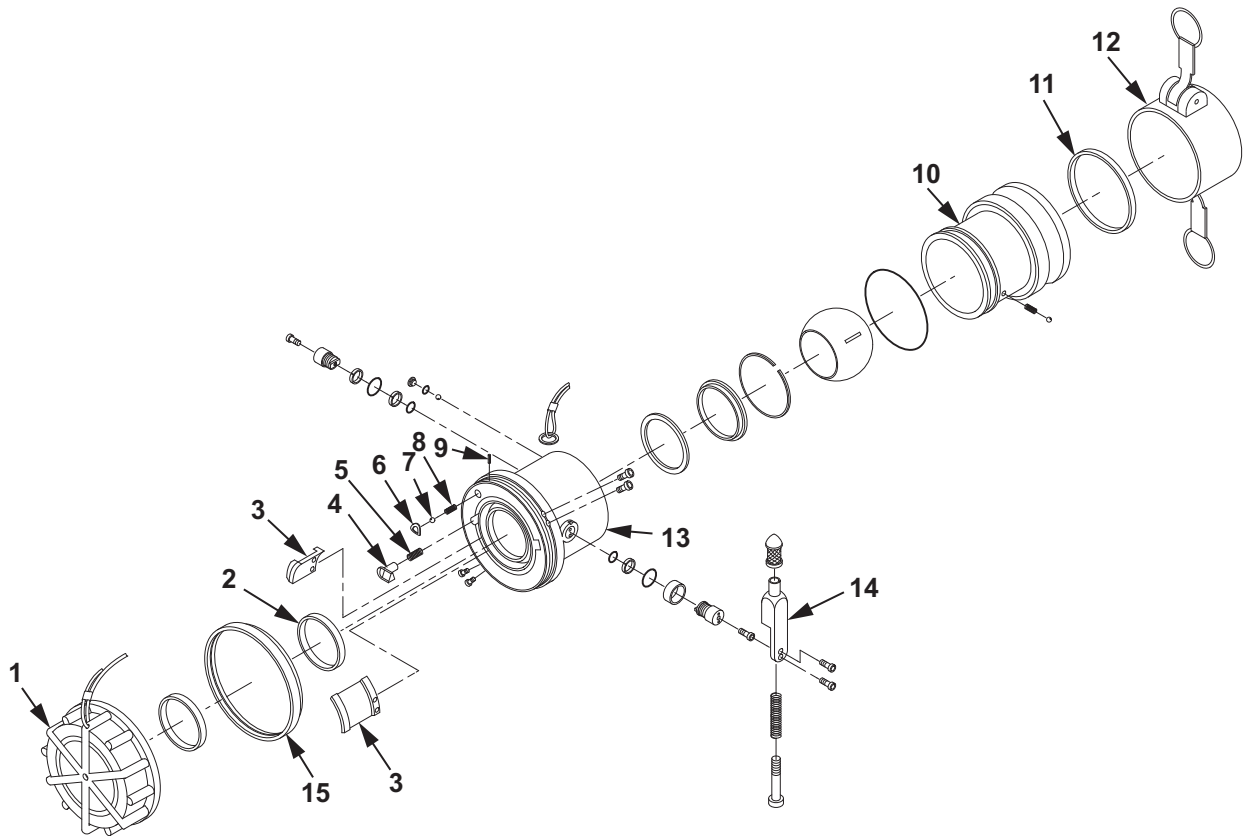

Figure 2. 4 In. Male Camlock X 3 In. Valved Dry-Break Adapter Assembly.
35. Remove lugs (Figure 2, Item 3) from coupling (Figure 2, Item 13).
36. Remove seal (Figure 2, Item 2) from coupling (Figure 2, Item 13).
37. Discard seal (Figure 2, Item 2).
Do not remove spring washer (Figure 2, Item 6), ball bearing (Figure 2, Item 7) or spring (Figure 2, Item 8). If replacement of ball bearing (Figure 2, Item 7) is required, then coupling (Figure 2, Item 13) must be replaced.
If it is necessary to replace lockout pin (Figure 2, Item 4), perform the following removal steps.
38. Remove spring pin (Figure 2, Item 9) from coupling (Figure 2, Item 13).
39. Remove lockout pin (Figure 2, Item 4) from coupling (Figure 2, Item 13).
40. Remove spring (Figure 2, Item 5) from coupling (Figure 2, Item 13).
41. Remove dust cap (Figure 2, Item 12) from inlet adapter (Figure 2, Item 10).
42. Remove gasket (Figure 2, Item 11) from dust cap (Figure 2, Item 12).
43. Discard gasket (Figure 2, Item 11).
2. Inspect bumper (Figure 2, Item 15) for cracks, tears or cuts. If cracks, tears or cuts are found, replace with a serviceable like item.
3. Inspect dust cap (Figure 2, Item 1) for cracks or damage. If cracks or damage is found, replace with a serviceable like item.
4. Inspect dust cap (Figure 2, Item 12) for cracks or damage. If cracks or damage is found, replace with a serviceable like item.
5. Inspect spring loaded ball bearing (Figure 2, Item 7) located in face of coupling for damage. Push the ball bearing (Figure 2, Item 7) in and ensure it pops back into place. If damage is found or ball bearing (Figure 2, Item 7) does not pop back into place, replace coupling (Figure 2, Item 13).
6. Inspect control arm (Figure 2, Item 14) for cracks or damage. If cracks or damage is found, replace with a serviceable like item.
1. Install new gasket (Figure 2, Item 11) in dust cap (Figure 2, Item 12).
2. Install dust cap (Figure 2, Item 12) on inlet adapter (Figure 2, Item 10).
If it was necessary to replace lockout pin (Figure 2, Item 4), perform the following installation steps.
3. Install spring (Figure 2, Item 5) into coupling (Figure 2, Item 13).
4. Install lockout pin (Figure 2, Item 4) into coupling (Figure 2, Item 13).
5. Install spring pin (Figure 2, Item 9) into coupling (Figure 2, Item 13).